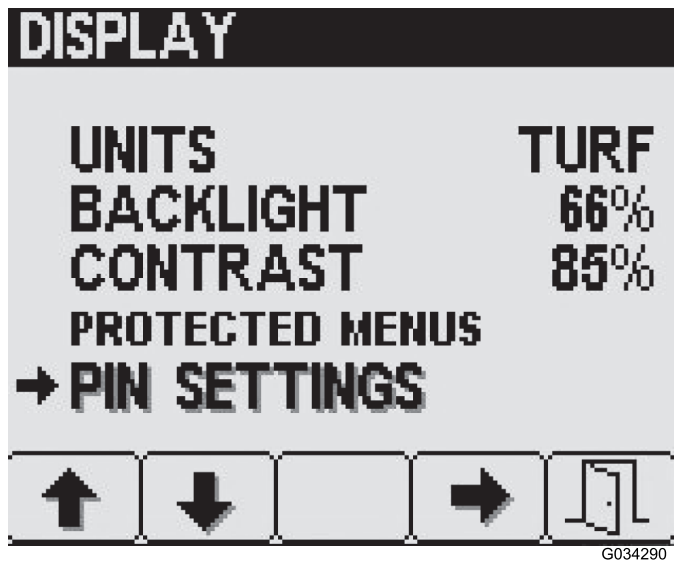

Figure 14
1. Press button 2 on the Display settings screen until you reach PIN Settings, then press button 4 to select PIN Settings (Figure 14).